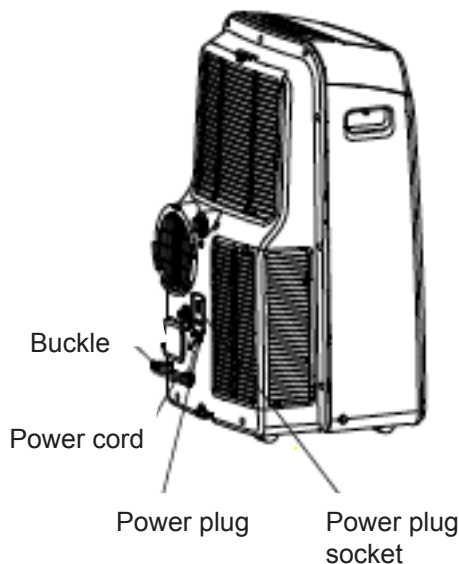

Fig. 25
- Stop the appliance and unplug it, wrapped the cord and bundle it with the tape(Fig.25).